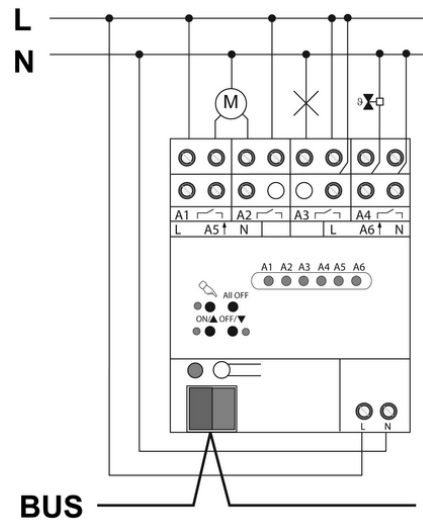

Figure 3: Connection example
- Connect bus cable with connecting terminal (Figure 3).